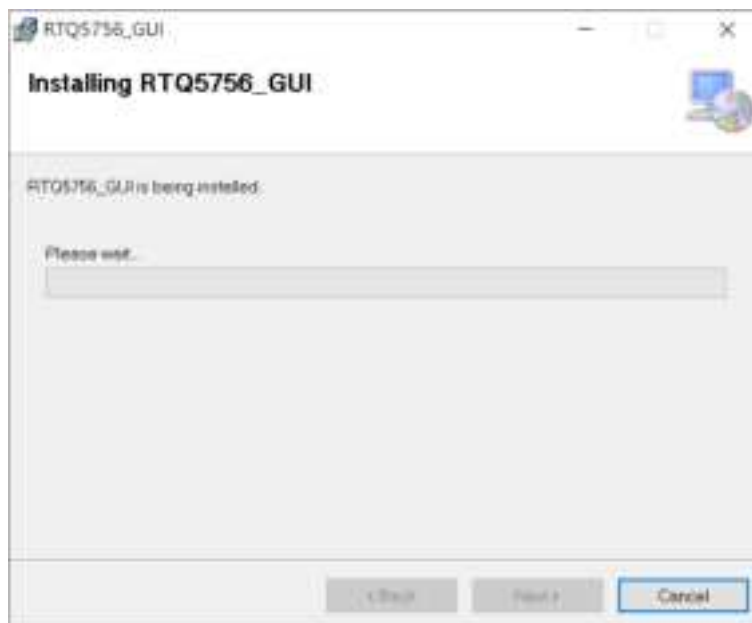

Figure 14. RTQ5756_GUI Installation Step 14
Step 14: During the installation process, set the installation path as needed, then continue with the installation until the software is completely installed. Once installation is complete, the RTQ5756_GUI can be used. Figure 14 shows the progress bar of the installation process.